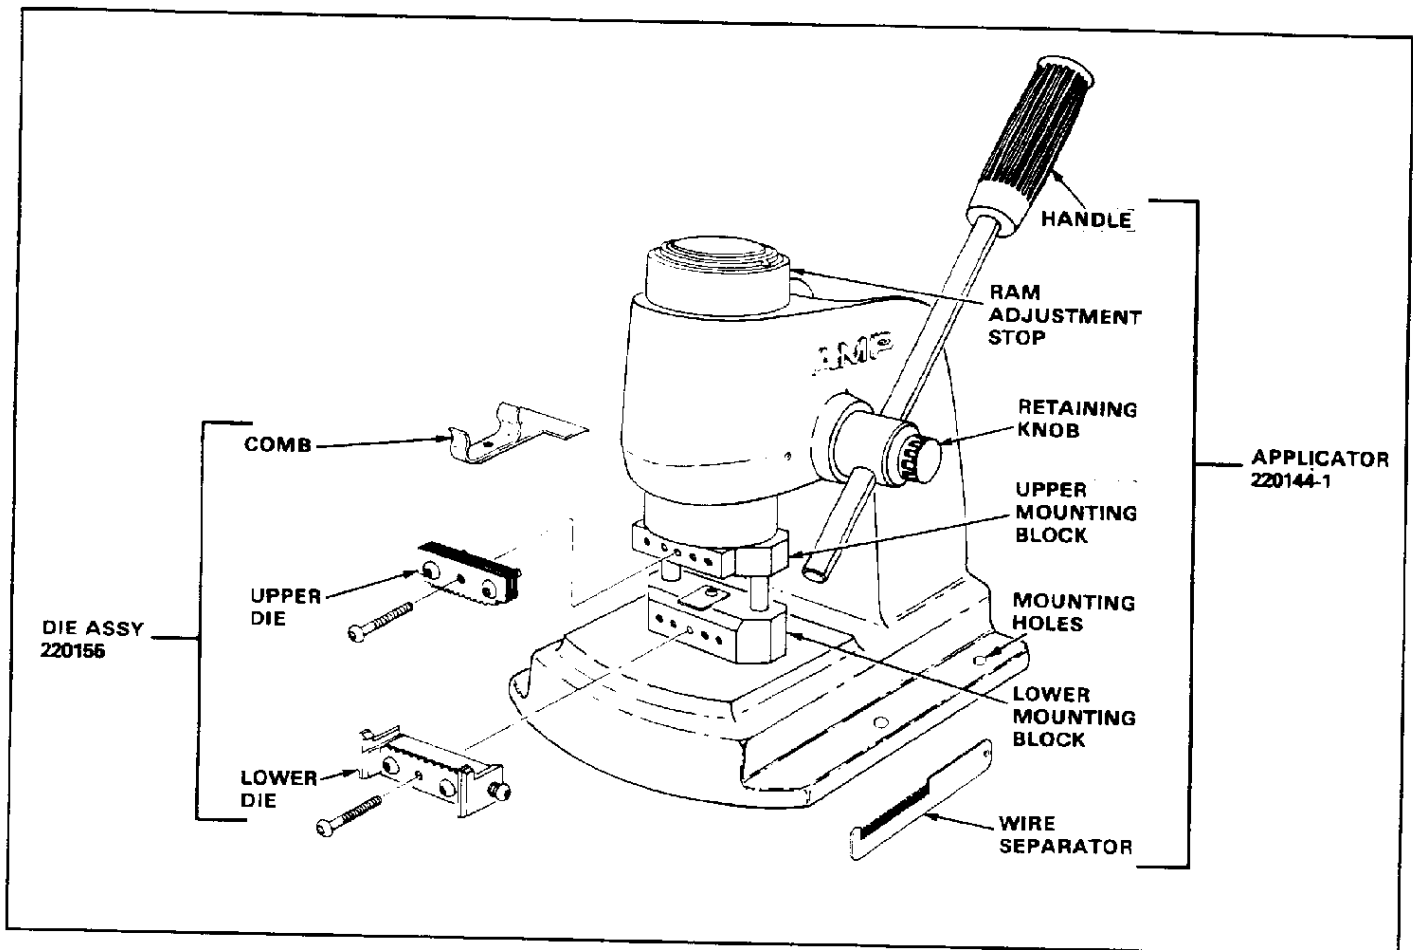

Fig. 1
AMP Applicator 220144-1, shown in Figure 1, is designed for use with AMP Crimping Die Assemblies, Base No. 220155 (see Figure 2 for individual dash numbers). The tooling terminates AMP Coaxial Ribbon Cable with AMP Coaxial Ribbon Cable Receptacles (see Figure 2) having up to and including 25 positions. This instruction sheet (IS) gives application and maintenance instructions for the applicator and dies. Read these instructions thoroughly before terminating any cables.
2. DESCRIPTION (Figure 1)
3. APPLICATOR SETUP (Figure 1)
5. Position lower die on lower mounting block and tighten holding screws. See Figure 1.